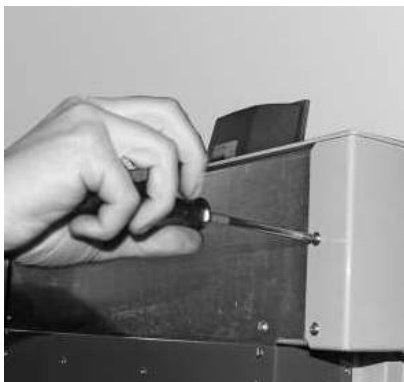

Fig. 66 Reattaching the cladding door cover
- Mount cladding door cover on door again with 4 self-tapping screws – Fig. 66.